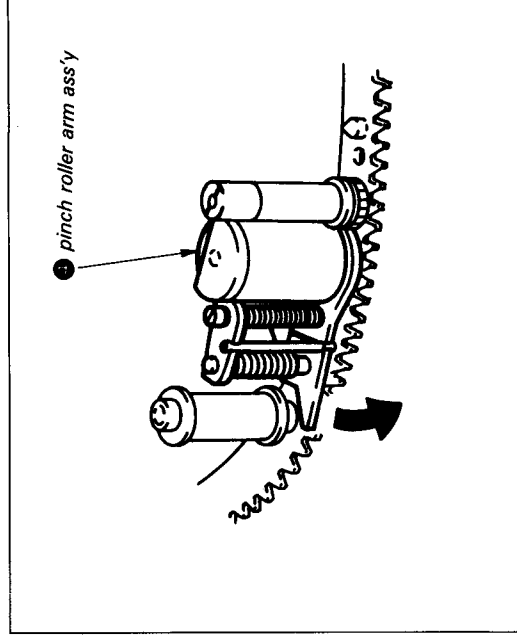

Fig. 7-16.
- 4) Rotate pinch roller arm assembly ④ in the direction of arrow. (See Fig. 7-16.)